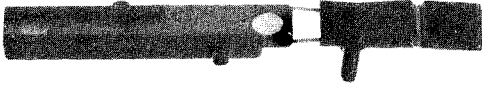

Fig. 21 - NS19478 L1
4.16 The NS19478 L1 guard, Fig. 21 consists of a red plastic insulator detail designed to protect a pair of conductors in the test field of a 302 Connector.